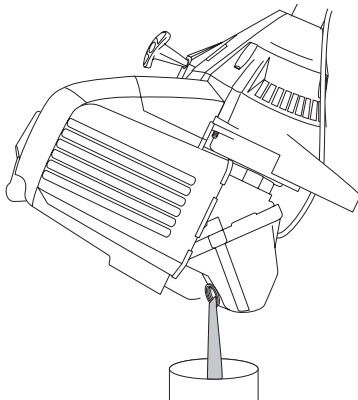

Fig. 42
3. Pour the oil out of the oil fill hole and into a container by tipping the unit to a vertical position (Fig. 42). Allow ample time for complete drainage.